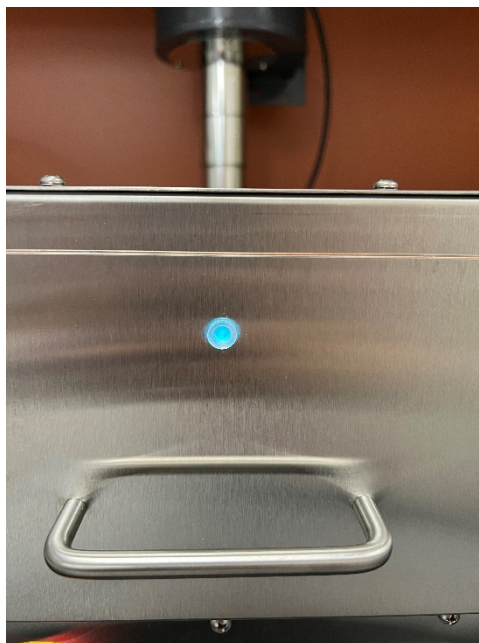

Figure 1. The blue light on top of the drawer handle of the UVO cleaner indicates that the UVO treatment is in progress.
4. Click the “Start/Resume” button to start the UVO treatment process. The time will countdown second-by-second and a blue light on top of the drawer handle will be illuminating. Additionally, a buzzing noise will be heard, which indicates that the UVO treatment process is working properly (**Figure 1**).